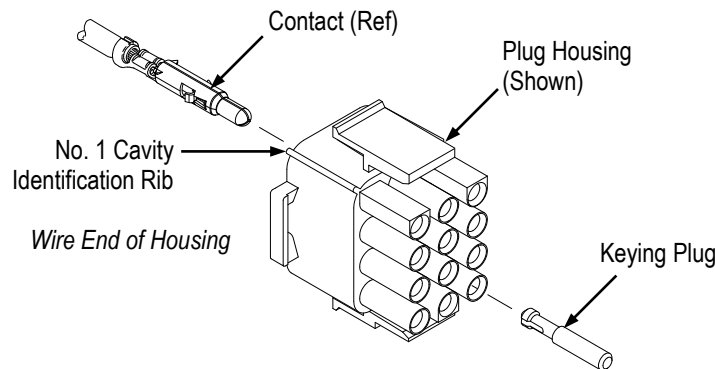

Figure 2
2. Observing the cavity identification numbers on the wire end and the No. 1 cavity identification rib on the side of the housing, manually insert each contact into a circuit cavity of the housing. If using keying plugs, leave the circuit cavities to be keyed empty. Refer to Figure 2.
3. If applicable, insert keying plug(s) according to instruction sheet 408-3320. Refer to Figure 2.
- Changed TwistLok to twist and lock, replaced tables in Figures 1, 2, 3, 4, and 5 with reference part numbers in Figure 1, added housings to Figure 1, and added Figures 2, 3, and 4, and Section 3